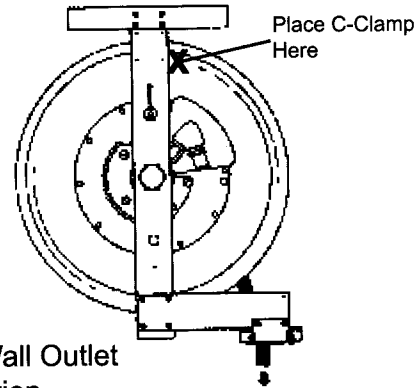

Figure 8
1. Pull the hose out fully and engage the stop pawl. Place C-Clamp on spool to prevent possible bodily injury. (see figure 8)